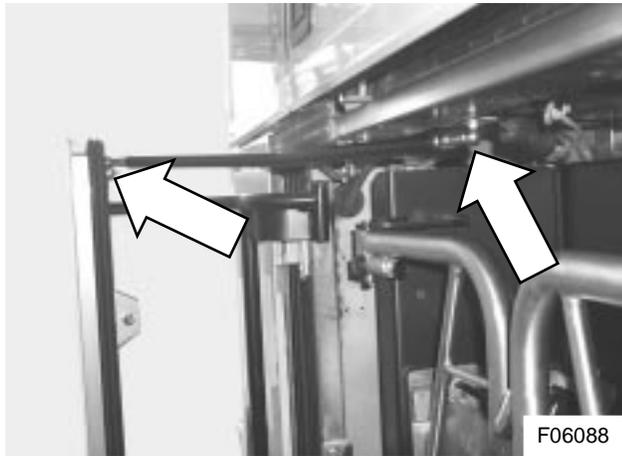

Figure 33: Tie rod ball joint location
- 1) Undo and remove the nuts securing the door tie bar ball joints to the door and the upper compartment channel (see Figure 33, page 27). Remove and discard the tie rod.